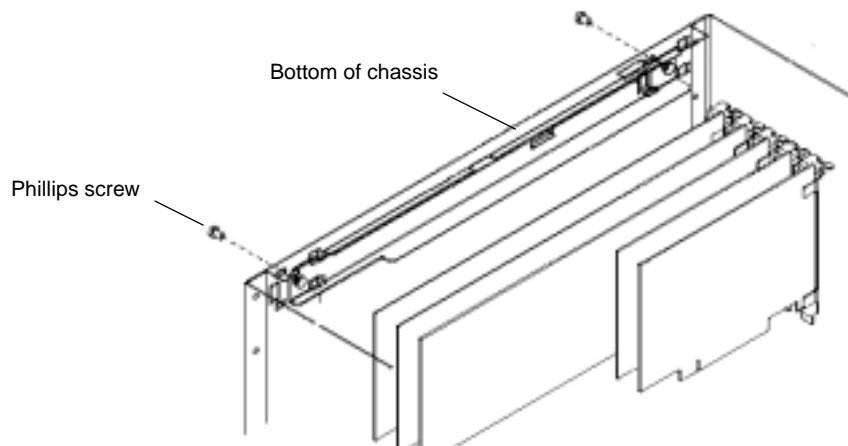

Figure 4-15 Attaching the Support Bracket
- a. Remove and save the two Phillips screws from the support bracket (see Figure 4-15).